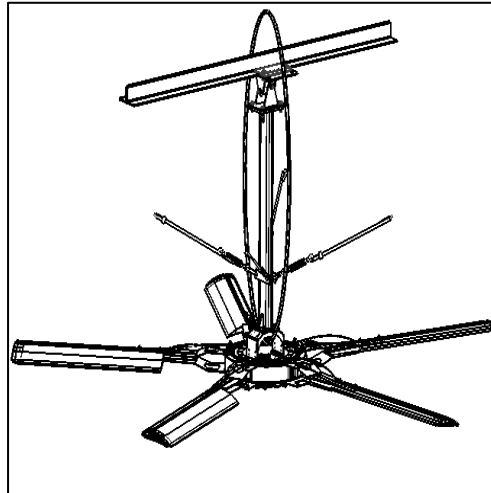

Figure 33: Ceiling structure with fan and guy wires
2. Connect the cable near the motor with the conduit box B as shown in Figure 33.